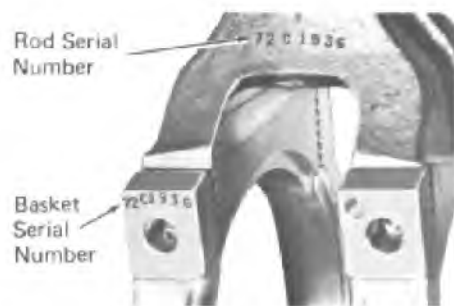

Fig. 5-19 - Rod And Basket Identification
43. Be sure that the serial number on the basket matches the serial number on the connecting rod, Fig. 5-19.